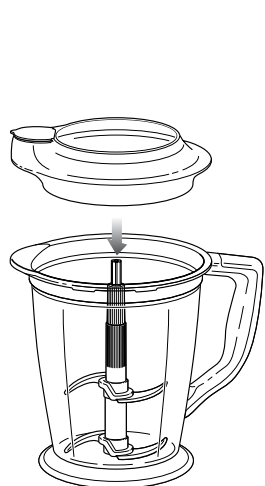

Fig. 3
- 7 Place the pitcher splashguard onto the top of the Master Prep pitcher. **(fig. 3)**